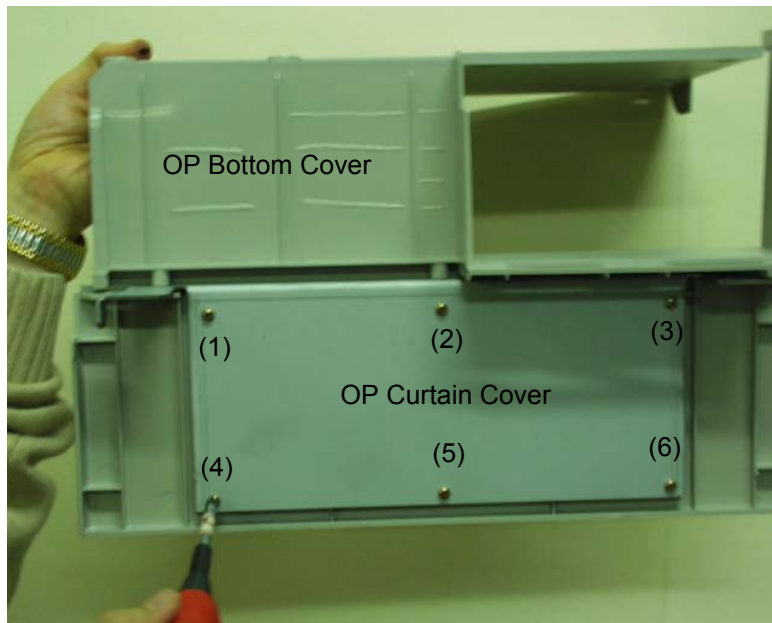

Figure 8-64 Unscrew 6 screws to remove the OP Curtain Cover
- 8.) Unscrew six screws from the OP Curtain Cover. Refer to Figure 8-64 on page 8-48 .